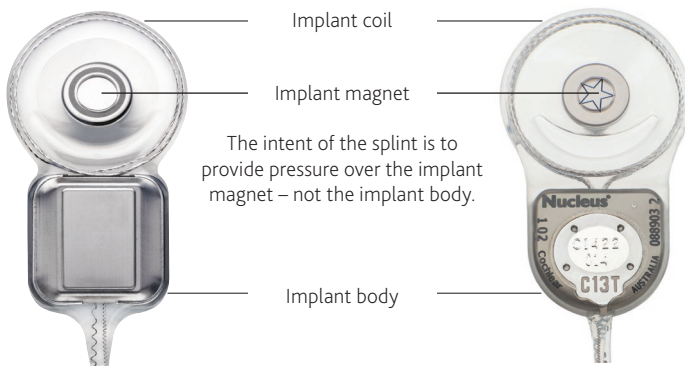

Figure 5: Location of the implant magnet on CI500 Series (left side) and CI24RE Series (right side) implants
- Touch - gently feel around the implant site to locate the position of the implant coil. The implant is comprised of two components; the round implant coil and the implant body. See *Figure 5* below. The implant magnet will be at the centre of the implant coil.
1. Use a splint from the MRI Kit and centre it over the implant magnet site (as marked) against the skin. For bilateral recipients, use one splint for each implant. Ensure each splint is held in place over the implant magnet. See *Figure 5* below for the implant magnet location. You may need the assistance of another person to hold each splint in place while you bandage. Otherwise, use the supplied tape to maintain the splint position prior to bandaging.